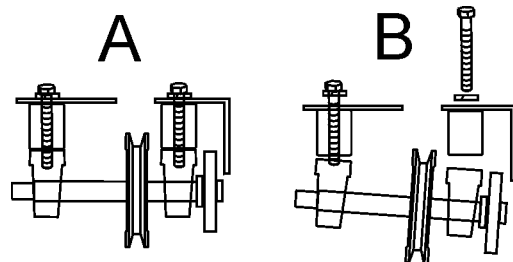

Figure 10. V-Belt Removal
6. Remove the two outer arbor shaft hex screws allowing the outside of the shaft to drop, (B in Figure 10), allowing removal of the V-belt.